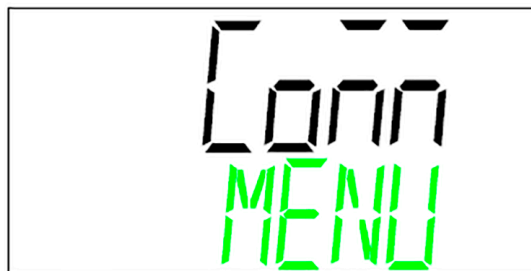

Figure 4-9. Communication Menu
2. Press the [MENU] button until it switches to the Communication menu. See Figure 4-9.